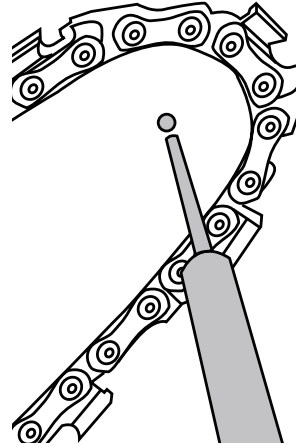

Fig. 15
2. Using a grease gun, insert the tip of the gun into the lubrication hole and inject grease until it appears at the outside edge of the sprocket tip (Fig. 15).